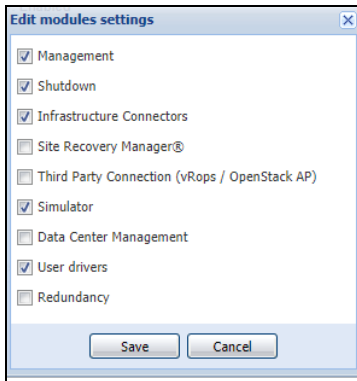

Figure 88. Enable Infrastructure Connectors Setting for Virtualization
1. From the left-side **Views** panel of the Eaton IPM main interface window, select the **Settings > System** menu item. The System page displays (see Figure 88).